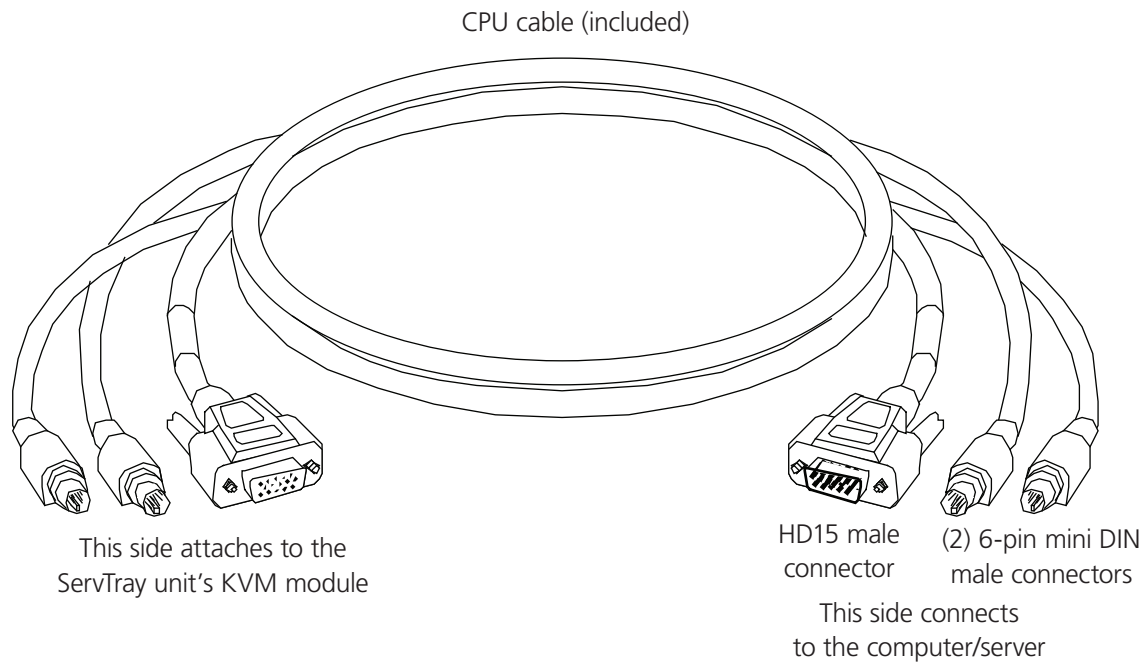

Figure 3-11. Cable for connecting the KVM module to a computer.
8. Once the ServTray is installed in the rack or cabinet, you can connect it to a computer. The KVM module's connectors attach to the KVM connectors on a PS/2 CPU via the CPU cable (included) shown in Figure 3-11.